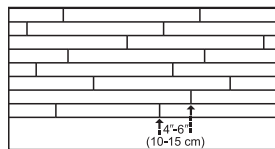

Figure 8
- End-joints of adjacent rows should be staggered a minimum of 4-6 in. (10-15 cm) when possible, to ensure a more favorable overall appearance (figure 8).
- Set compressor at 70 PSI. If tongue damage occurs, lower air pressure (Figure 8).